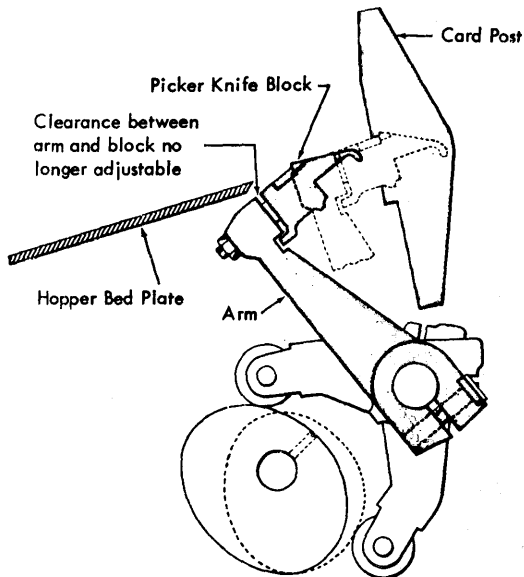

Figure 4-1. Picker Knives
1. Position the picker knife cam follower arms so that clearance (not to exceed .004") exists over the entire cam periphery (Figure 4-1). See 5.12 in Section 5 for picker knife cam shaft alignment procedure.